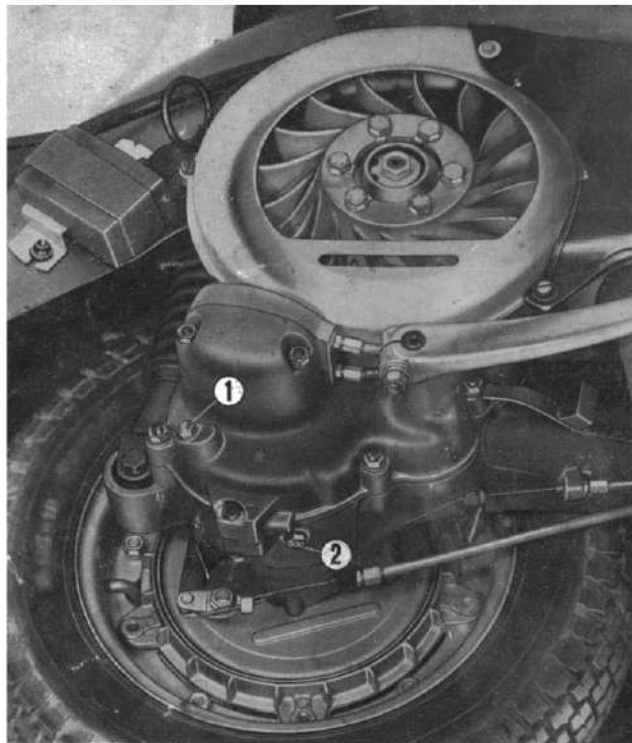

Fig. 16 - Oil filler hole (1); oil draining hole (2).
BEFORE OPERATING THE VEHICLE	<p>Unscrew the plug on the gear box marked « OLIO » (fig. 16) and check that the oil is on a level with the hole when the vehicle is standing upright.</p>
- 1) - Check oil level in gear box (Fig. 16).